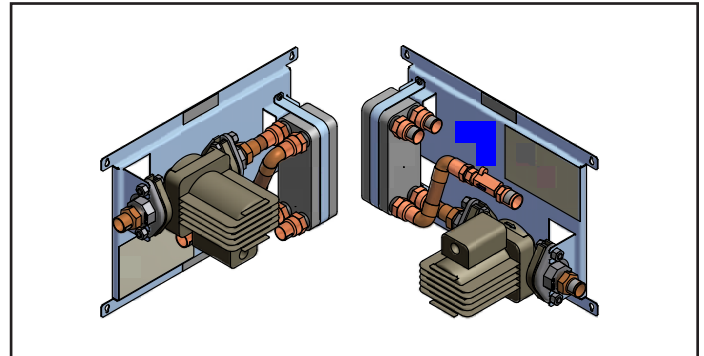

Figure 2.
1. DHWG must be installed with water pipes at right or left side of the unit (see figure 2).